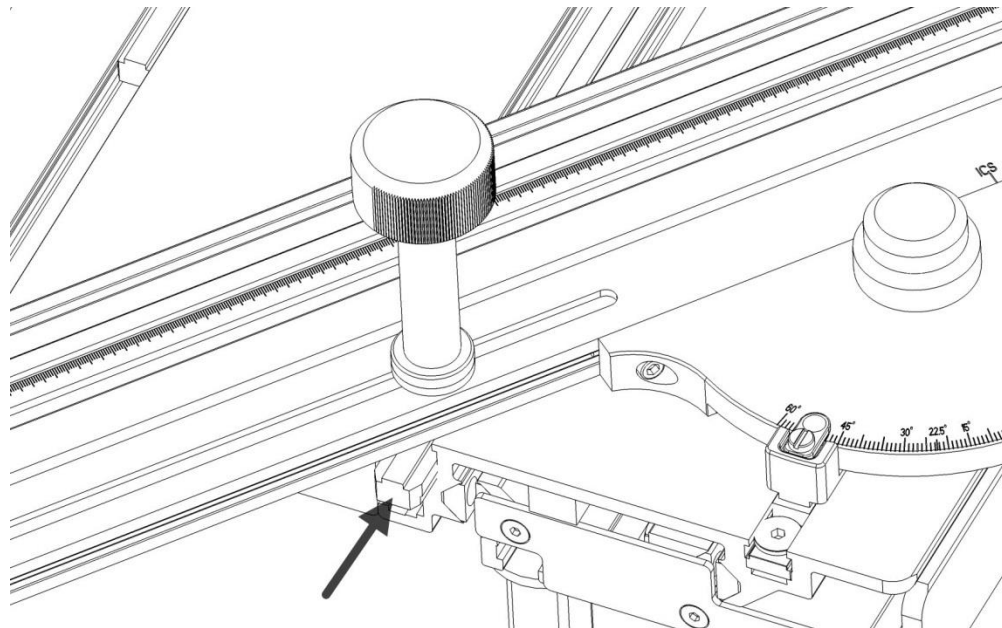

Fig. 12
15. Remove the T-bolt (229) from the Crosscut Fence Lock Knob and insert the threaded shaft of the T-bolt up through the slot on the fence as shown in **Fig. 12**. Pivot the fence clockwise and slide the T-bolt into the T-slot in the left side of the sliding table top. Place the plastic washer (228) on the T-bolt threaded shaft and then screw on the crosscut fence lock knob. Do not tighten the lock knob at this time.